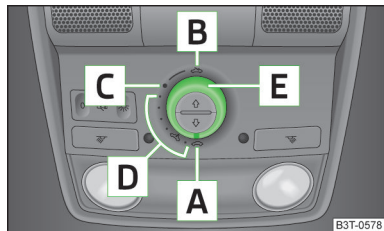
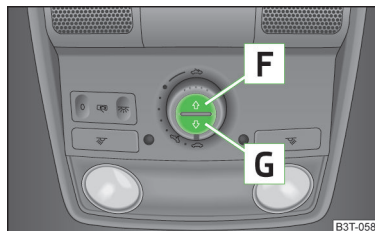

Fig. 46
Fig. 47
- If, for example, the battery has been disconnected and reconnected, it is possible that the sliding/tilting roof does not operate correctly. Next, move the rotary switch into position **A** » Fig. 46 on page 64, pull the recess firmly ▶
■ If, for example, the battery has been disconnected and reconnected, it is possible that the sun screen does not operate correctly. Then turn the switch to position **A** » Fig. 46 on page 64 and press and hold the button **G** » Fig. 47 on page 64. The sun screen opens and closes again after around 10 seconds. Do not release the control dial until it has done so.
➤ Turn the switch to position **C** » Fig. 46.
The sun screen can be closed or opened using the buttons » Fig. 47.
➤ Briefly press the button **F** » Fig. 47 to open fully.
➤ Briefly press the button **G** » Fig. 47 to close fully.